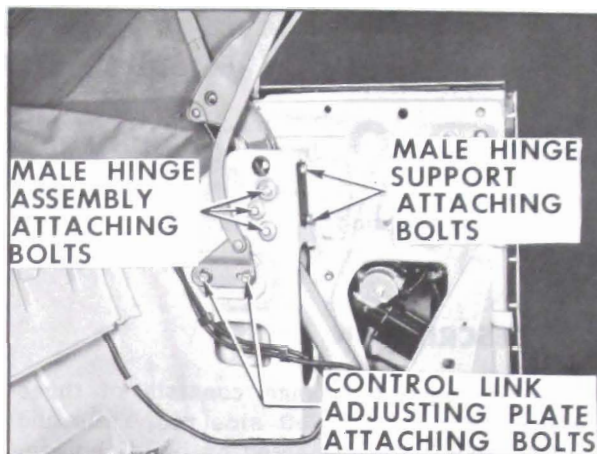

Figure 7-20—Folding Top Adjustment
- a. Remove folding top compartment side trim panel and loosen two bolts securing control link adjusting plate (Figure 7-20) sufficiently to permit adjustment of plate.
- a. Loosen three male hinge assembly attaching bolts (Figure 7-20).
b. Loosen male hinge assembly attaching bolts and male hinge support front attaching bolts (Figure 7-20).
d. Tighten hinge support front attaching bolts, then while maintaining proper alignment of scribe marks on top of hinge, tighten hinge assembly attaching bolts (Figure 7-20).